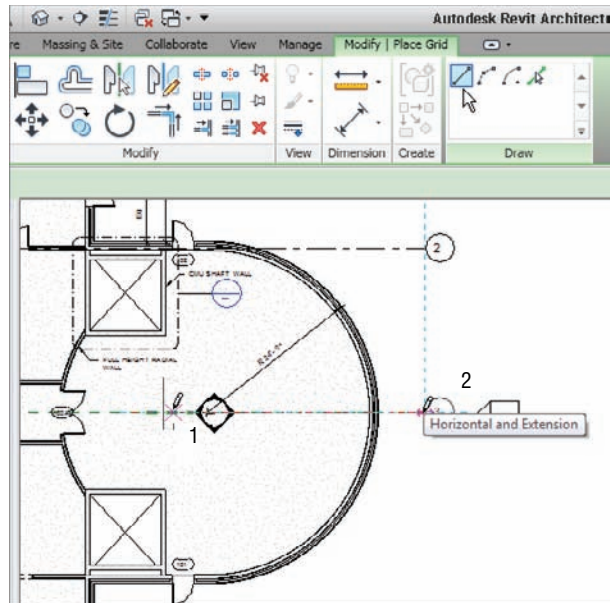

FIGURE 8.6 Adding grid 3 at the center of the building
- Pick a point along the center reference plane, as shown in Figure 8.6.
- Pick a second point in alignment with grid 2 (see Figure 8.6).